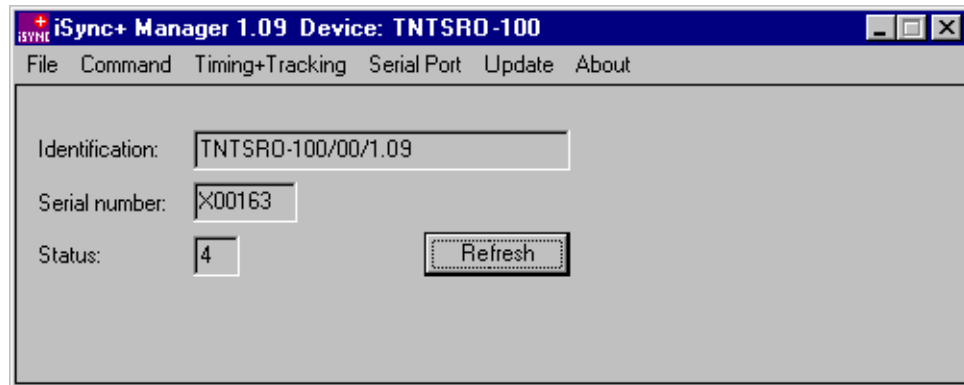

Figure 1 - iSyncMgr.exe
- Once the serial port number is properly working, click on the “Refresh” button. The Identification, Serial Number and Status of the smart SRO rubidium clock inside the GPS PicoReference should be displayed as Figure 1 below: